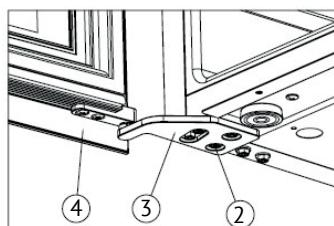

Figure 5
- ➲ Install the right upper hinge ③, and screw tight the M5*16 screws ② (Figure 5).